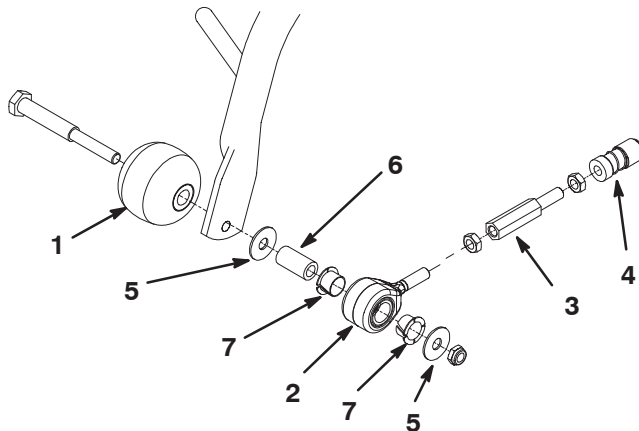

Figure 9
1. Mount an anti-scalp roller and a pull link assembly to the outer end of each front carrier frame with a roller shaft, spacer, washers and lock nut (Fig. 9). Make sure the components are arranged as shown and the nylon bushings are in the pull link.